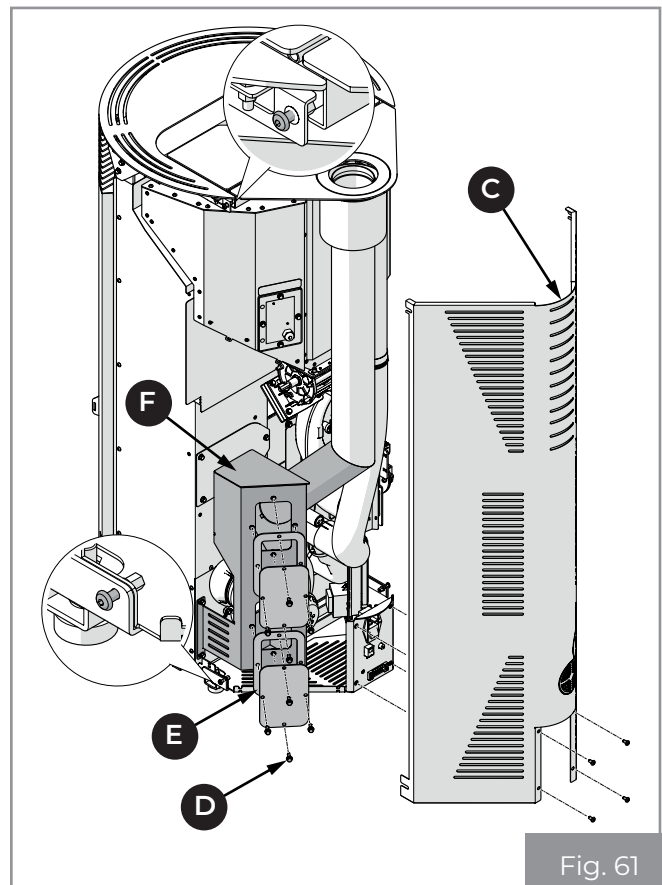

Fig. 61
- Remove the back panel of the stove **(C)** (**Fig. 61**).